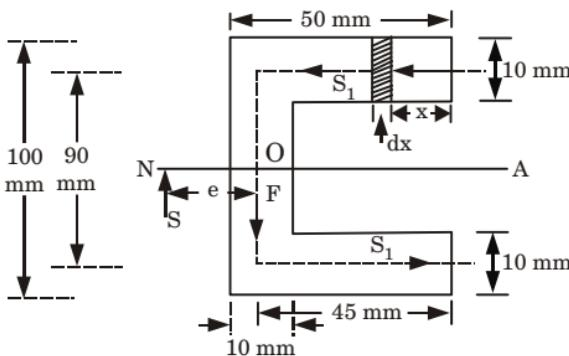

Fig. 3.
- b. Locate the position of the shear centre for the channel section shown in Fig. 3.